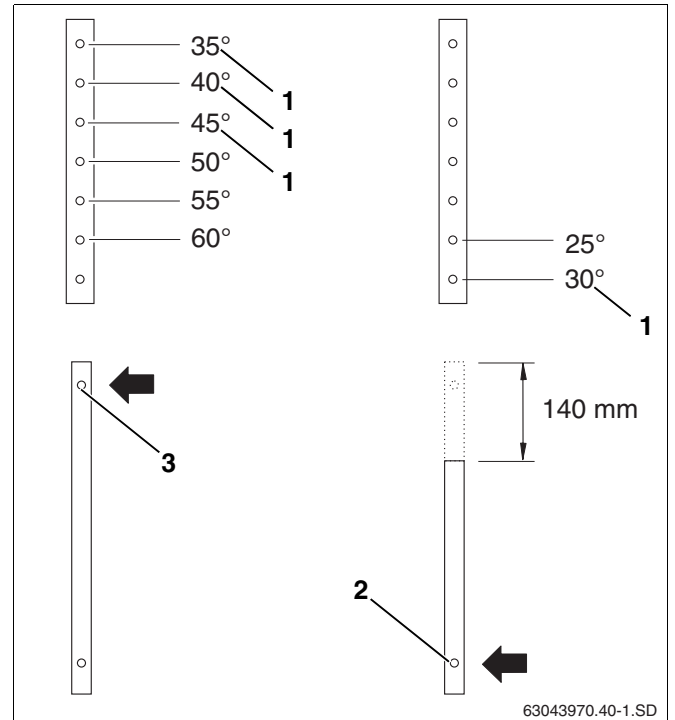

Fig. 13 Adjusting angle of inclination for landscape collectors
For landscape installation of a collector with an angle of inclination of 35° to 60°, use the uppermost hole on the lower telescopic rail (Fig. 13, **Item 3**).
For an angle of inclination of 25° and 30°, you must shorten the top of the lower rail by 140 mm and use the lower hole (Fig. 13, **Item 2**).
- ▶ For wall-mounted installation, use only the positions for the collector angles of inclination 30°, 35°, 40° and 45° (Fig. 13, **Item 1**).